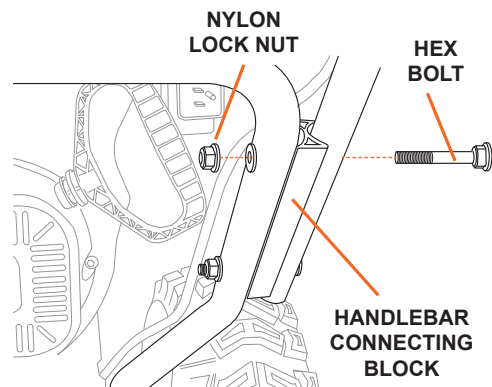

Figure 1
1. Hex bolts and nylon lock nuts have been provided in a hardware package. Align the two holes in the handlebar connector block with the two holes in the upper and lower handlebars assemblies on the snow blower. Push hex bolts through from the outside and secure with a nylon lock nut on the interior in two places on both sides of the snow blower. Tighten securely (see Figure 1).